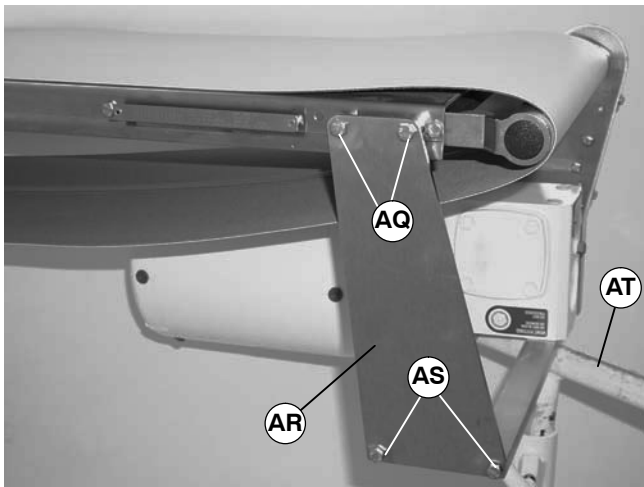

Figure 21
**NOTE:** For conveyor with a Heavy Load Bottom or Top Gearmotor Mounting Package, bracket (AR of Figure 21) must be removed.
- Remove two M6x30 mm hex head cap screws and spacers (AQ).
- Remove two M6x16 mm hex head cap screws (AS).
- Remove bracket (AR).
The weight of the gearmotor is all on one end of the conveyor which could cause it to tip off the stands when the mounting clamp plates are loosened. Be sure to provide support (AT of Figures 21 and 22) underneath the gearmotor while changing the belt.
6. Place a temporary support (AT of Figures 21 and 22) under gearmotor mounting package.
6. For a conveyor with a Heavy Load Bottom or Top Mounting package, install bracket (AR of Figure 21).